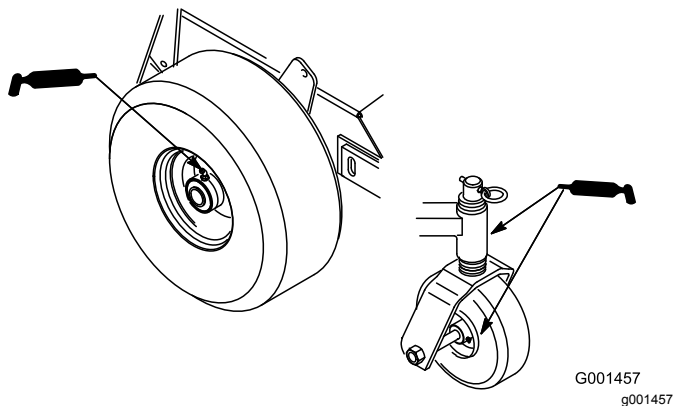

Figure 20
1. Lubricate the front wheel bearings and front spindles (Figure 20).
2. Lubricate the drive-wheel bearings (Figure 20).